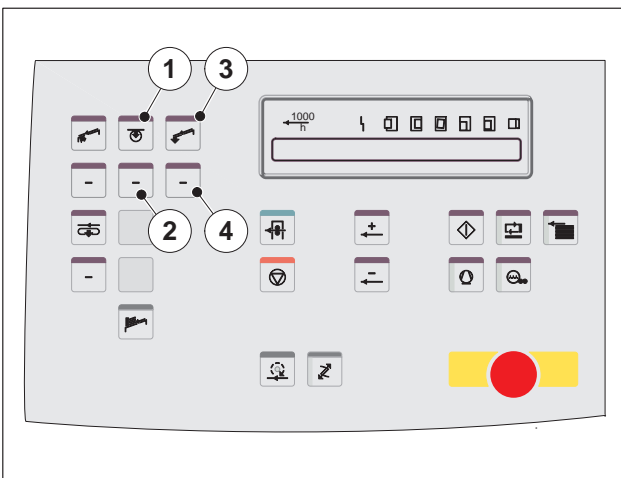

Fig. 63
Using the buttons (Fig. 63/1...4) you can adjust the suction air volumes of pull plate and propelling roller separately.
- the button (Fig. 63/3) to increase the suction air volume on the pull plate.
- the button (Fig. 63/4) to reduce the suction air volume on the pull plate.
- the button (Fig. 63/1) to increase the suction air volume on the propelling roller.
- the button (Fig. 63/2) to reduce the suction air volume on the propelling roller.